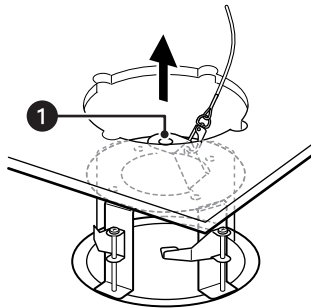

Figure 23. Installing the Mount Bracket
- ❶ Anchor Bolt
- ❷ Ceiling Mount Bracket
- ❸ Safety Wire
5. Insert the mount bracket into the hole in the ceiling, and then insert the first anchor bolt into the mounting hole of the mount bracket (refer to Figure 23).